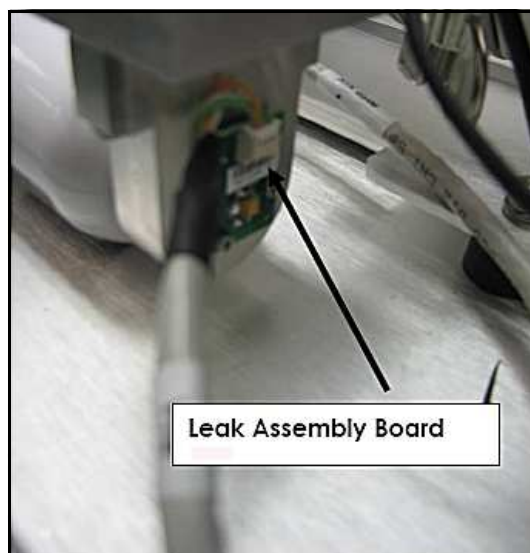

Figure 5: Leak Assembly Board Connection
7. Connect the calibrated leak temperature cable end labeled P1A to the leak assembly board connector J1A (Figure 5: Leak Assembly Board Connection).